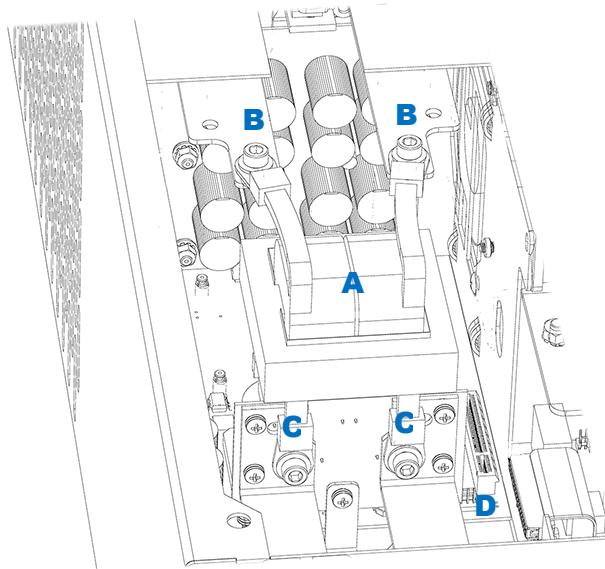

Figure 50 Common-Mode Choke
2. Remove the common-mode choke **A**. See Figure 50 for all items.
3. Remove the 4-pin connector (not depicted in Figure 50) that plugs into the carrier board at **D**.
- Replace the common-mode choke **A**. See Figure 50 for all items.